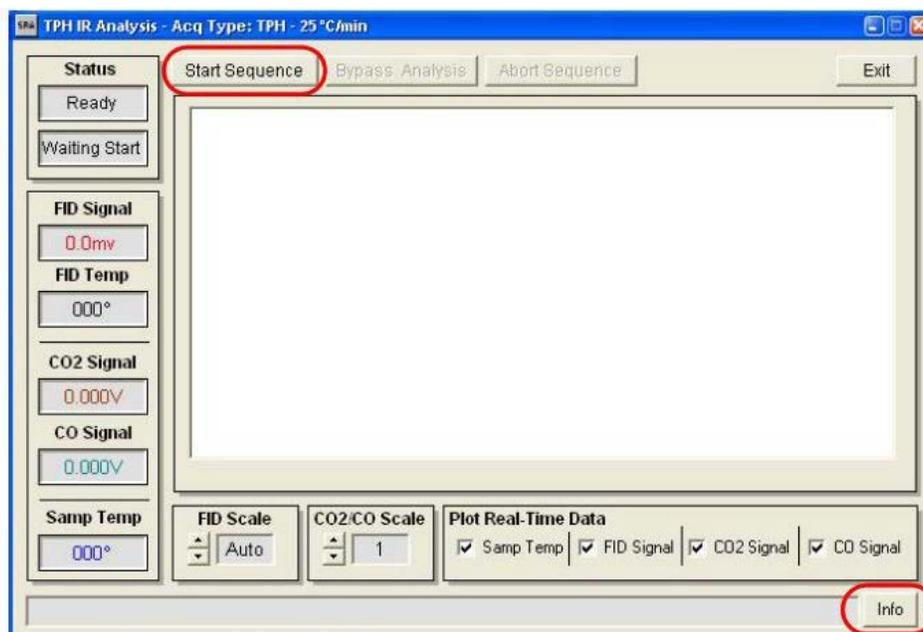

Figure 11. Analysis Screen.
3. Click **Next** to open the *Analysis* screen (Figure 11).